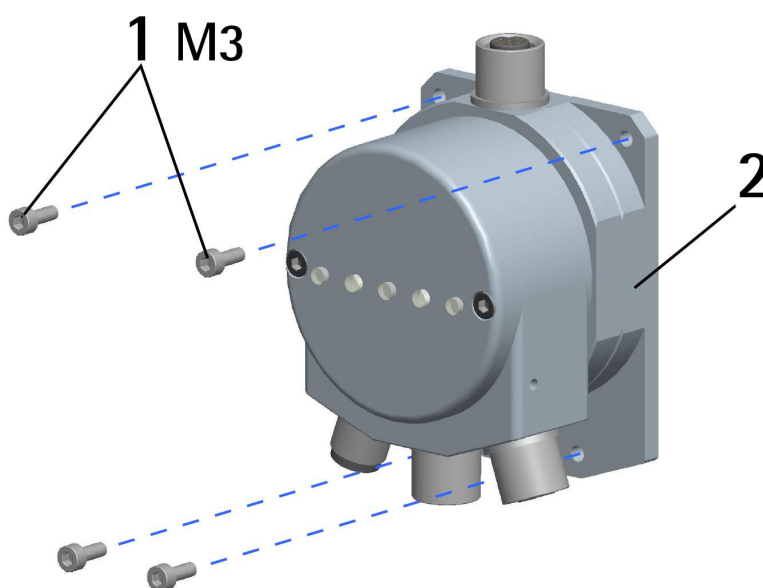

Figure 2 - Installation on panel
3.3 Installation with DIN rail clip (Figure 2)